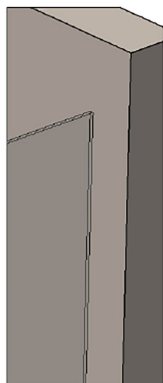
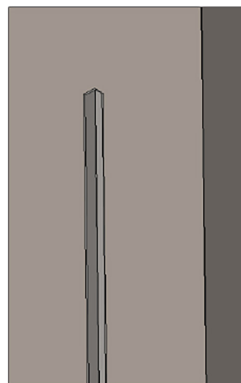

FIGURE 17C
FIGURE 17D
ZV Angle Seal (M) - This is to be placed on handle side of door, DIRECTLY to the tile (make sure tile is clean and dry before application). Place door in closed position and lightly mark with pencil in several different locations where the outside edge of glass meets tile (See Figure 17C). Remove red covering (See Figure 17D) and apply seal to tile evenly up and down wall, following pencil marks.